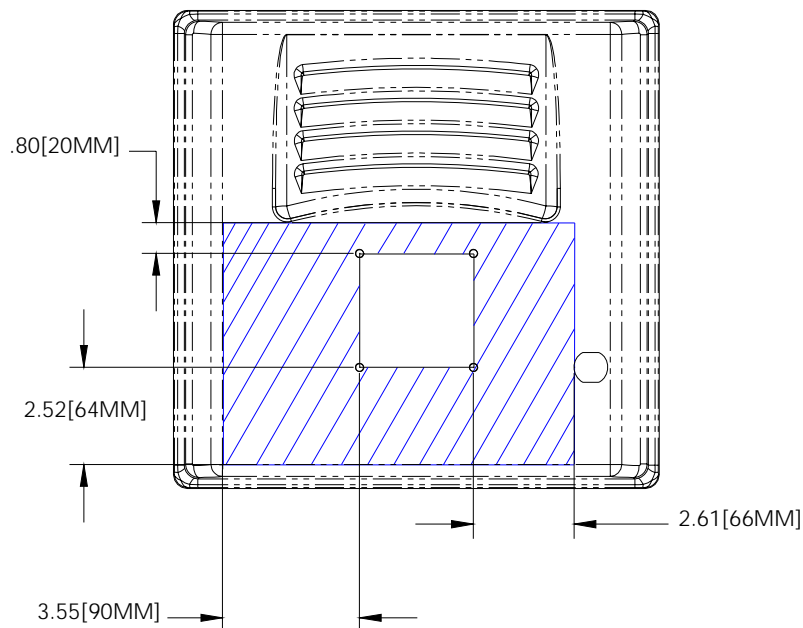

FIG. 34 MB-TP12 Mounting contact surface area
7. Note the available mounting contact surface area on the rear plastic cover of the MB-TP12 (FIG. 34). This area represents the space available for use with a VESA connector plate.